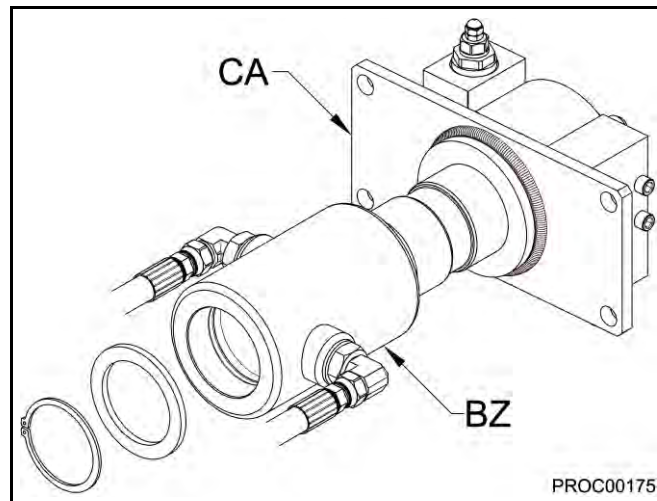

Fig. 1
The swivel manifold assembly is located between the top bracket, which is pinned to the carrier, and the processor frame that rotates. Hydraulic oil for both the open and close operations of the processor passes through this manifold. The swivel manifold assembly consists of two main parts, the “**Spindle Case**” (BZ), which contains the oil seals, and the “**Spindle**” (CA), which rotates with the processor frame (see **Fig. 1**).